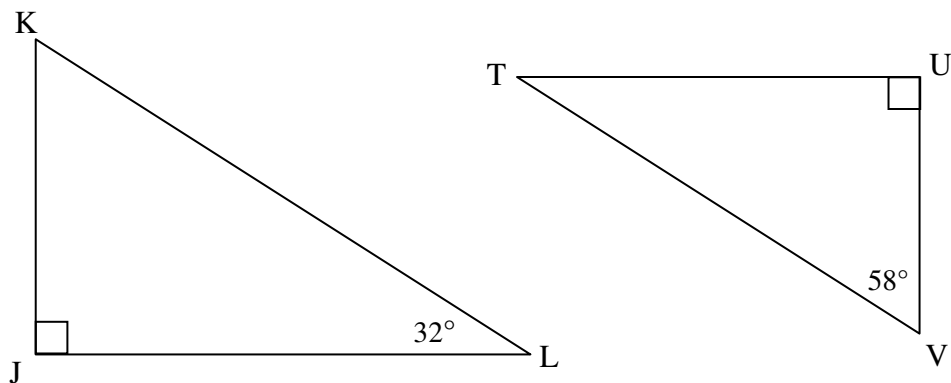

Figure 4-5: Corresponding sides
1. See Figure 4-5 below. Are these two triangles similar? Explain your answer.